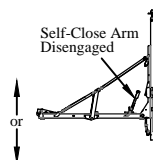

Figure 9: Step 10.
- Step 10. To raise (or lower) the load, push up (or down) on the control toggle switch until the load has reached the desired position. **Be sure the self-close arm is disengaged.** Do not allow the pump and motor to continue to run after the platform has reached its maximum height or after it has reached an obstruction (Figure 9).